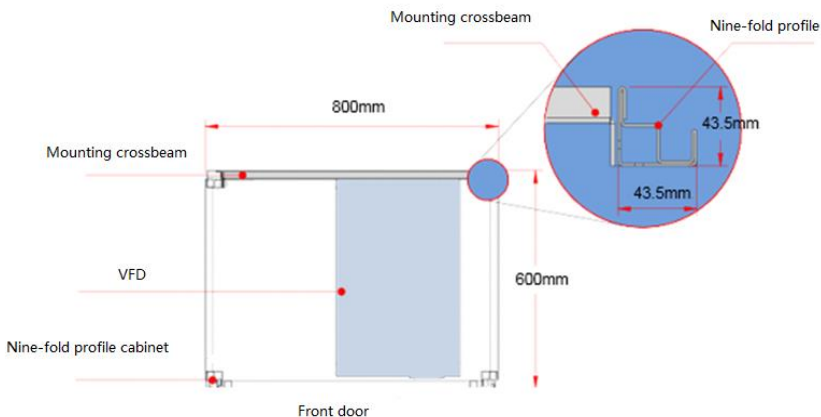

Figure 4-11 Top view of mounting a GD270 280–500kW VFD in a cabinet
| 1   | Mount the crossbeam for VFD fixing in the nine-fold profile cabinet. (See Figure 4-11.)   |
- (1) The nine-fold profile cabinet (PS cabinet) is recommended. Figure 4-11 shows the enlarged view of the nine-fold profile cross section.